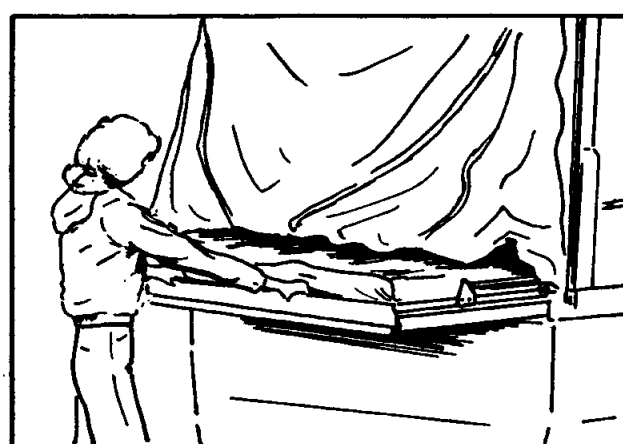

FIGURE 8
16. Standing right of center at the tongue end of the trailer, place hands (approximately 1 1/2 feet apart) on the bed frame and pull until the bed hits the stops. See Figure 8.